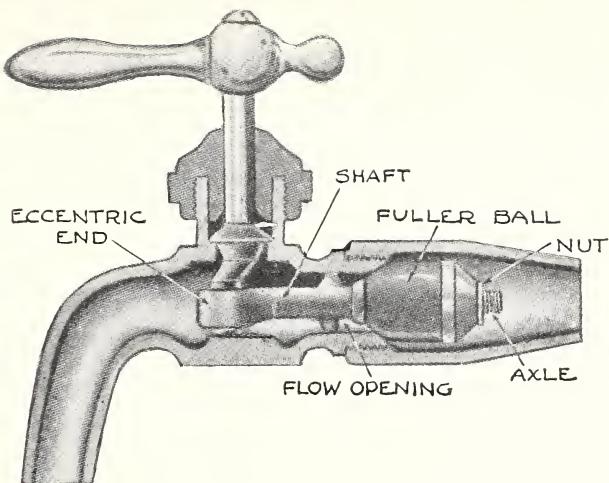

FIGURE 44.—Cross section of a Fuller ball faucet.
*Fuller ball.*—In the Fuller ball faucet, a hard rubber or composition ball-like stopper, known as the Fuller ball, is fastened by a small nut or screw to a shaft with an eccentric end (see fig. 44). When the faucet handle is closed, this ball is drawn firmly against the opening, shutting off the flow of water; when the handle is opened, the ball is pushed away from the opening, allowing the water to pass through. The best grade of Fuller ball should be used; the sizes range from  $\frac{3}{8}$  to 1 inch.